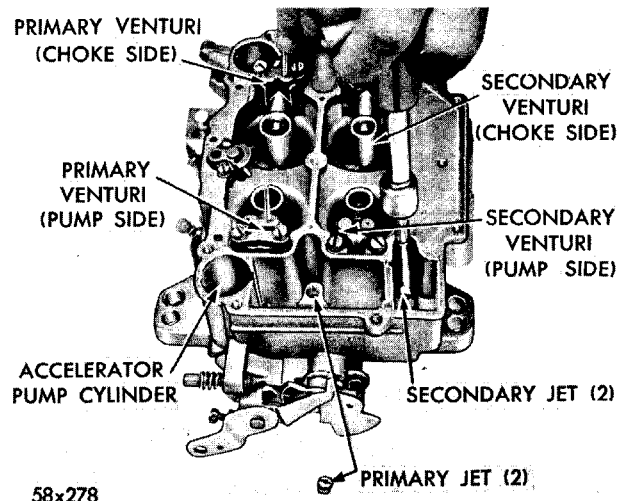

Fig. 4—Removing or Installing Main Metering Jets
(2) Using Tool T109-58, remove the main metering jets (primary side), as shown in Figure 4. **The primary and secondary main metering jets are not interchangeable. It is very important that these jets be installed in their respective locations in the main body at reassembly.**
(3) Again using Tool T109-58, remove the main metering jets (secondary side), as shown in Figure 4.
(6) Install the primary and secondary main metering jets, using Tool T109-58. (Refer to Figure 4). Tighten jets securely.
(7) Invert the carburetor and install the accelerator pump intake check ball. Install seat and tighten se-